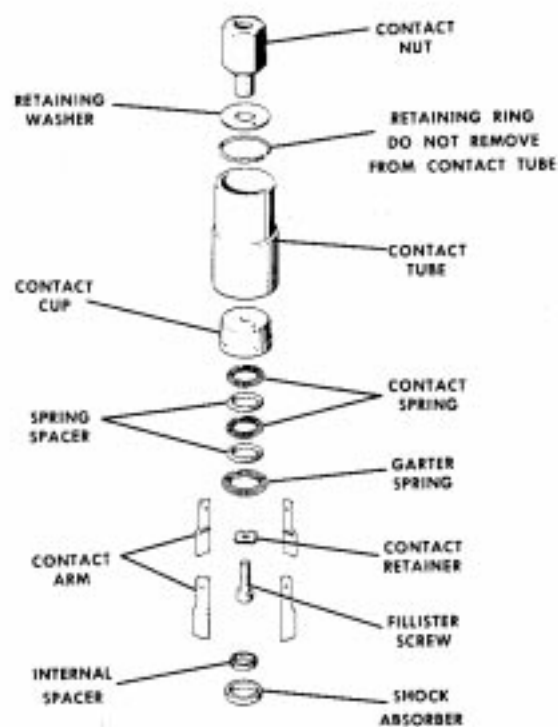

Figure 8
8. Insert a large screwdriver through the stationary contacts to engage the fillister screw slot. With a box wrench, loosen and remove the contact nut while the screwdriver is held securely in a vise. Remove contact arms, contact cup, and retaining washer, leaving the retaining ring, which rests in a slot on the inside of the tube. Figure 8 shows a dismantled stationary contact assembly.